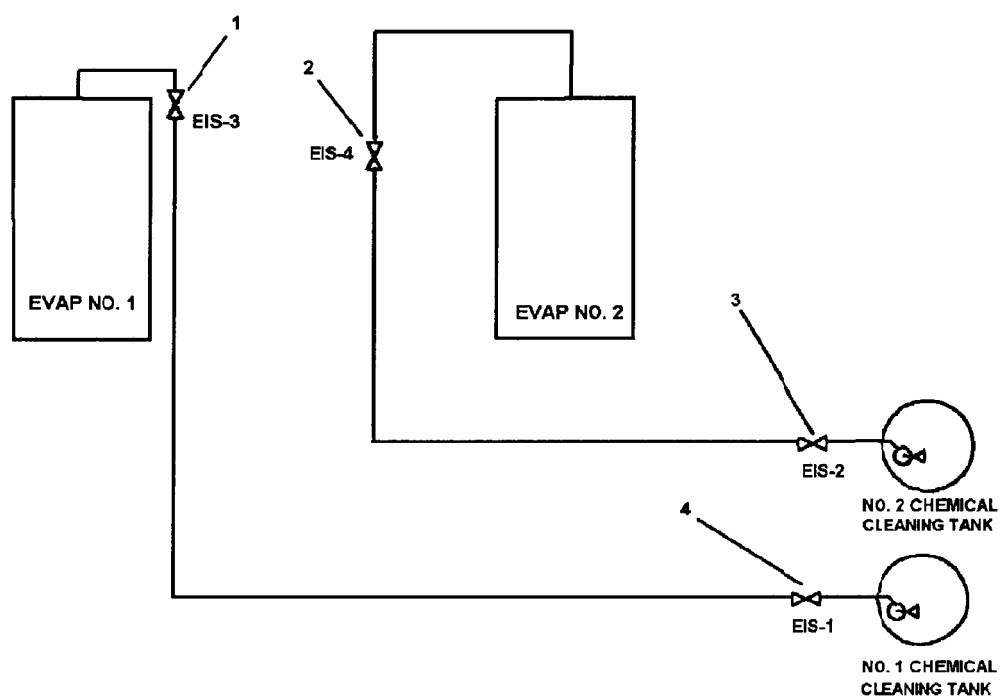

FIGURE 2-114. Waste Heat Evaporator Chemical Injection Tank.
- (f) Open EIS-3 (1, FIGURE 2-114), and EIS-1 (4) for evaporator No.1, or EIS-4 (2), EIS-2 (3) for evaporator No. 2.
- (j) Shut Seawater valves SW-44, EVAPORATOR SEAWATER SUPPLY (17), ESW-9, BRINE OVERBOARD DISCHARGE (2) and FW-908 DISTILLATE DISCHARGE (1).
- (l) For Evaporator No. 2, shut ESW-6 SEAWATER SUPPLY TO EVAPORATOR (18E) and ESW-8, EVAPORATOR SEAWATER DISCHARGE (3).
- (m) Locally, turn off Chemical Injection System pumps and secure valves EIS-3 (1), and EIS-1 (4) for evaporator No.1, or EIS-4 (2), EIS-2 (3) for evaporator No. 2 (FIGURE 2-114). At engine room power panel P103, set Chemical Injection System breakers to OFF.